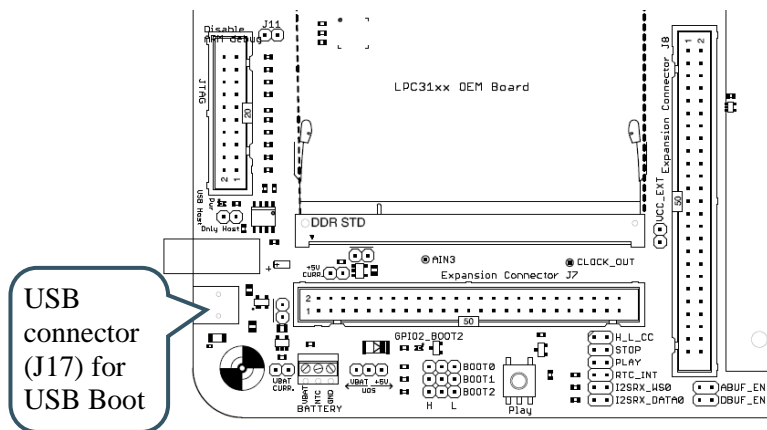

Figure 20 – LPC31xx Base Board USB Connector to LPC3131/41
- Connect a USB cable (mini-B to A) from your computer to the LPC31xx Base Board. Note that it is the LPC3131/41 USB connection that should be connected to, not the UART-to-serial bridge on the *LPC31xx Base Board*. See Figure 20 for an illustration where the correct USB connector can be found.